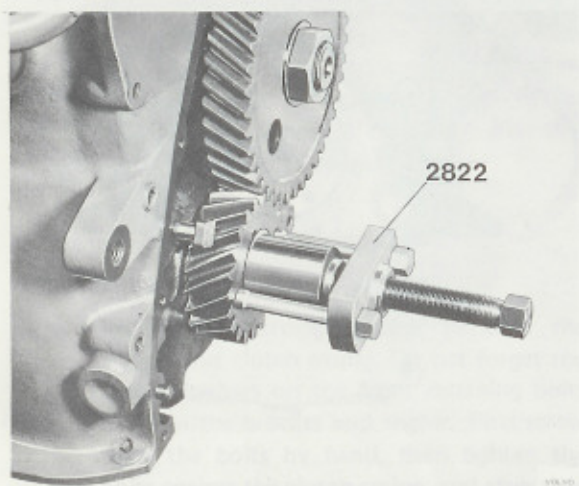

Fig. 21-10. Removing the crankshaft gear
9. Pull off the crankshaft gear with puller 2822, Fig. 21-10.